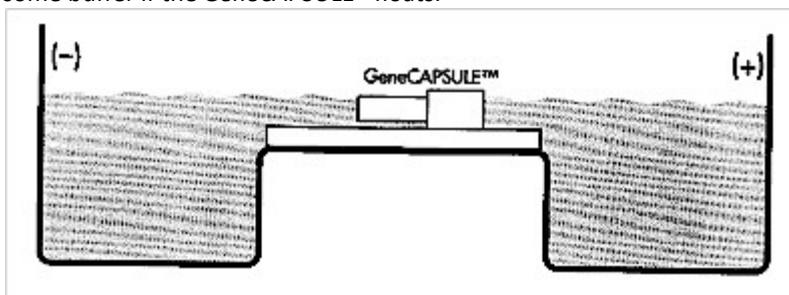

Figure 3: GeneCAPSULE™ Orientation.
12. Submerge the assembled GeneCAPSULE™ in the Running Buffer on top of the gel bed of the electrophoresis box such that the Gene-TRAP™ is facing the (+)-terminal (red color terminal) (Figure 3). Add buffer into the gel electrophoresis box just high enough to cover the Gel-PICK™. Remove some buffer if the GeneCAPSULE™ floats.